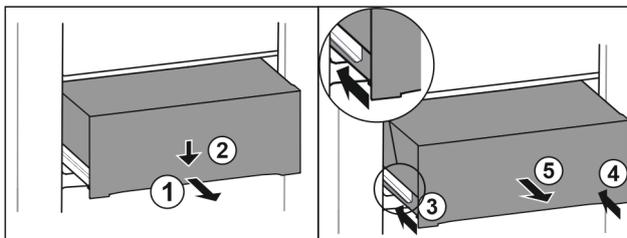

Fig. 112
- ▶ Pull out drawer half-way. Fig. 112 (1)
- ▶ Push the drawer down at the front. Fig. 112 (2)
- ▶ Push the left rail in by about 2 cm. Fig. 112 (3)
- ▶ Push the right rail in by about 2 cm. Fig. 112 (4)
- ▶ Remove drawer to the front. Fig. 112 (5)